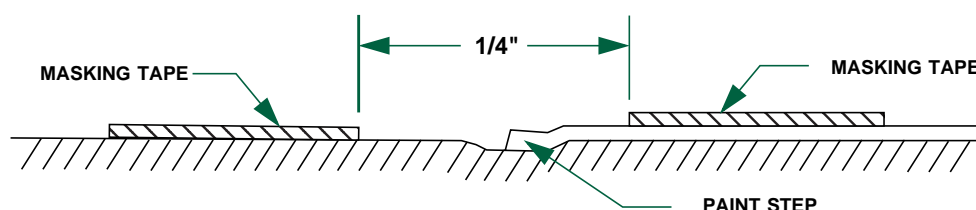

FIGURE 1 - MASKING OFF PAINT STEP
- Step 1. Mask off an area approximately 1/8" wide on both sides of the paint step using masking tape (see Figure 1).